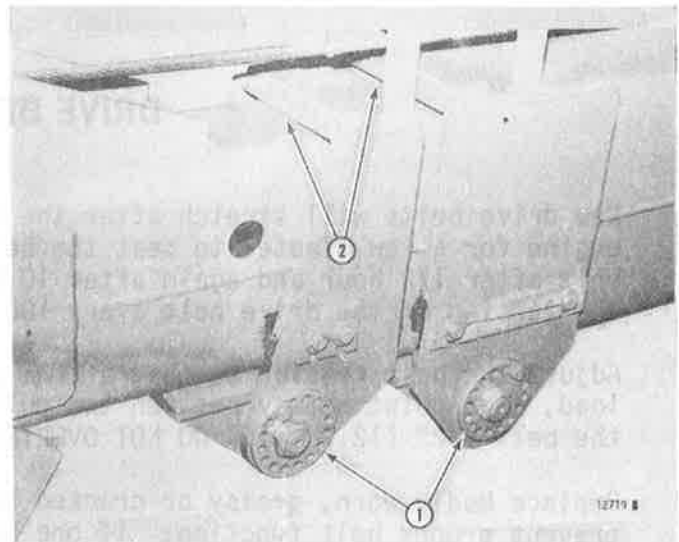

Figure 157
Adjust the wear pad support assemblies (1, Figure 157) against bottom of boom sections until approximately 1/16" to 1/4" (1.59 to 6.35 mm) clearance exists between boom sections at point (2).